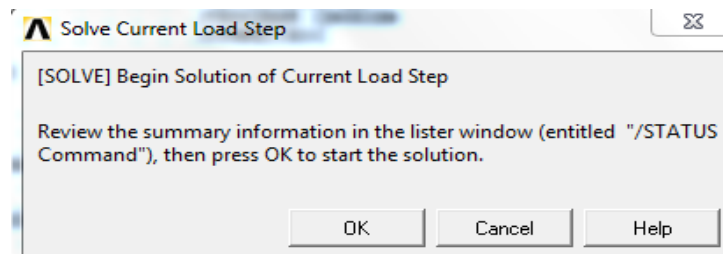

Figure 166: Solve Current Load Step dialog.
- ☑ From **Solve** select **Current LSI** to open the **Solve Current Load Step** dialog, as shown in (Figure 166).